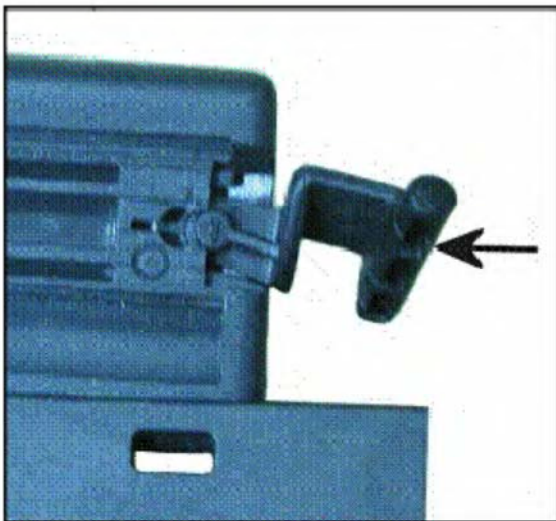

Figure 2
- Snap new friction pad(s) Part No. 3C0861597/598 in place, see figure 2.